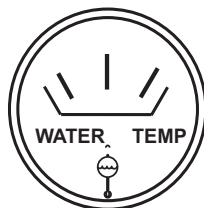

Figure 48. Coolant Temperature Gauge
13. The coolant temperature gauge (Figure 48) will indicate the coolant temperature. Under normal operating conditions the coolant temperature is between 165 and 215 degrees Fahrenheit.